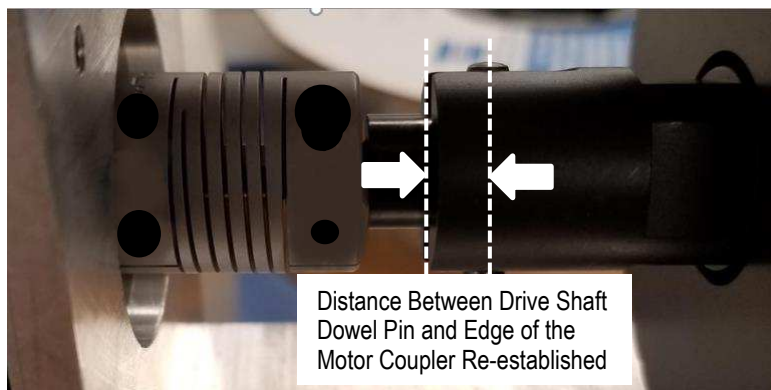

Figure 5
6. Place the new flex coupler into position on the shaft of the new motor. Install (2) M2.5 socket head cap screws into the threaded openings on the coupler and tighten until secure.
7. Install the new motor and flex coupler in the housing as shown in Figure 5 and begin threading the (4) M2.5 motor mount socket head cap screws.
9. Slide the drive shaft inside the flex coupler to the left or right to establish the distance determined in Step 3 between the drive shaft dowel pin and the edge of the motor coupler (reference Figure 5). Once obtained, tighten (2) M2.5 socket head cap screws, securing the new flex coupler to the drive shaft.